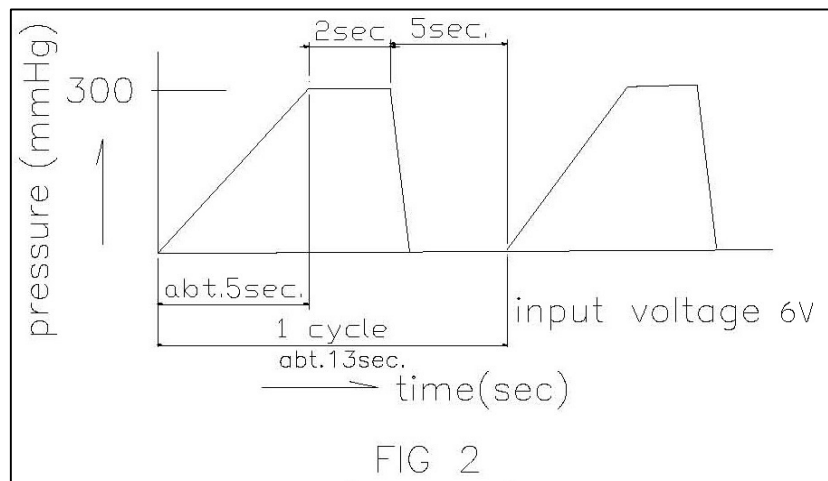

FIG 2
4.5 Performance test: In a 100CC volume, pressurizing for 5 seconds, stopping for 2 seconds, and deflating for 5 seconds as one cycle. Doing it for 30,000 times, then examine the pump by test 3.3, 3.4, 3.7, and 3.8 and finding out that the pump still performs to specifications. (See Figure 2)
* After the pump has been tested through test 5.1 and 5.2, it must be suitable the basic performance required by item 3.1 to 3.8. However the current is allowed lower than 300mA and the noise performance can not be guaranteed.